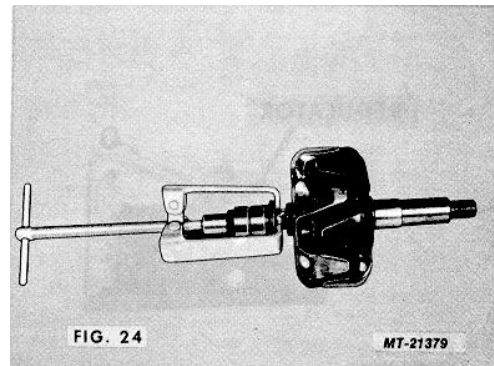

FIG. 24 MT-21379
- 2. With a suitable puller, the slip ring assembly may now be pulled from the shaft (see Fig. 24).